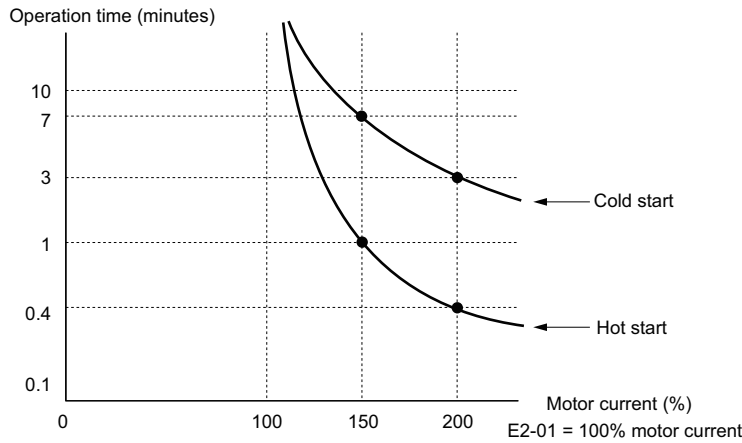

Figure 5.87 Motor Protection Operation Time
*Figure 5.87* shows an example of the electrothermal protection operation time using a general-purpose motor operating at 50 Hz with L1-02 set to one minute.